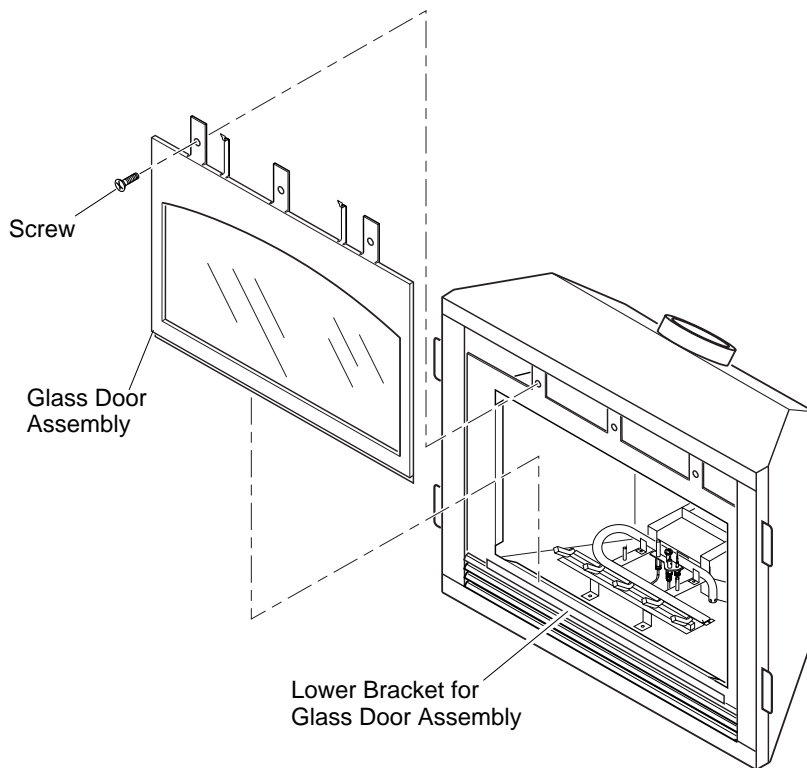

Figure 45 - Removing/Replacing Glass Door
3. Grasp door by both sides and ease it upward off of the lower bracket (see Figure 45).